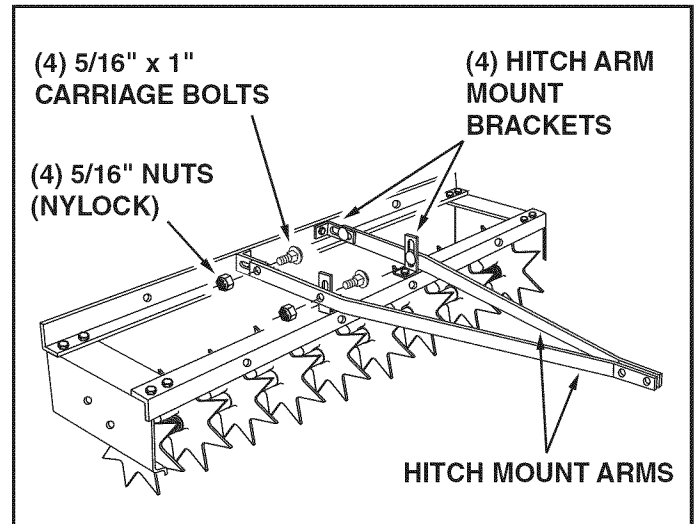

FIGURE 7
- Assemble the hitch mount arms to the **outside** of the four hitch arm mount brackets as shown in figure 7. Use four 5/16" x 1" carriage bolts and four 5/16" nylock nuts. **Do not tighten yet.** See figure 7.
- **Tighten** the bolts assembled in figure 7.